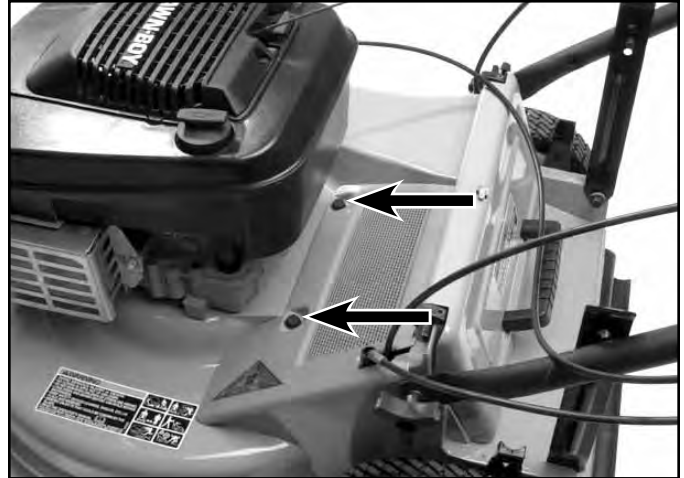

Fig 295
1. Remove the two flanged head self-tapping screws securing the screen panel to the housing and remove the screen panel (Fig. 295).